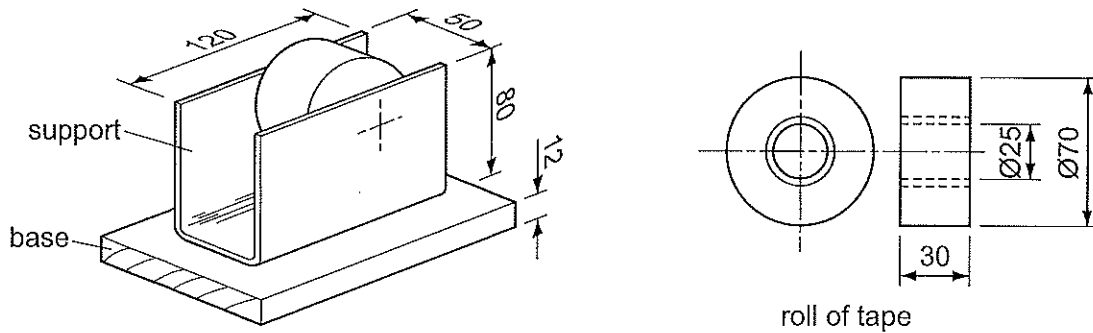

Fig. 7
- 6 Fig. 7 shows details of an incomplete design for a tape dispenser. The support is made from thermoplastic sheet and the base from hardwood.